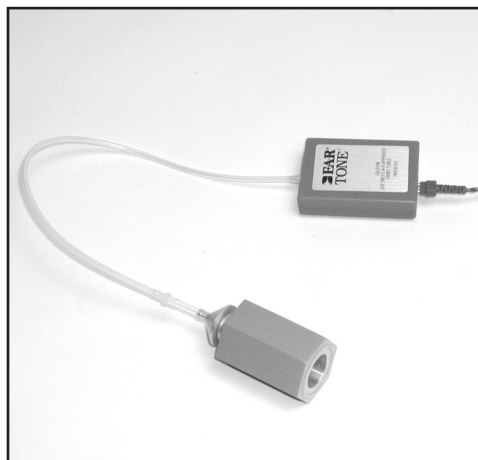

Figure 8.3.5A
2. Plug the other end of the insert earphone into the tubing of the ear level adapter attached to an HA-2 coupler. See Figure 8.3.5A.